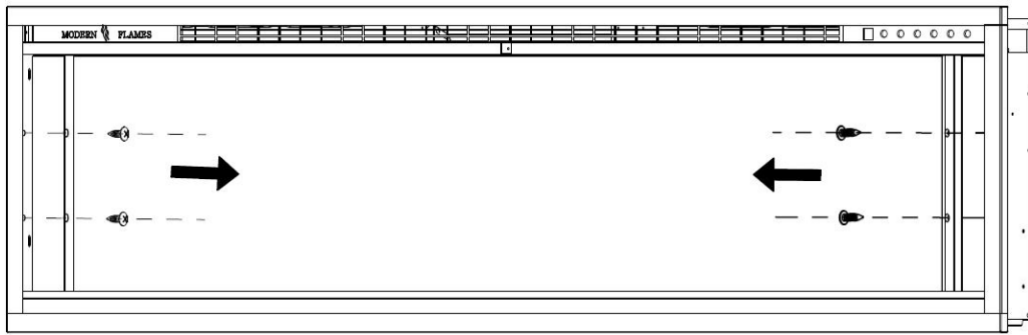

Figure 2-3
D. Remove the four screws (2 per side) from the side of the appliance and remove the brackets (**Fig. 2-3**). Set the screw/brackets aside.